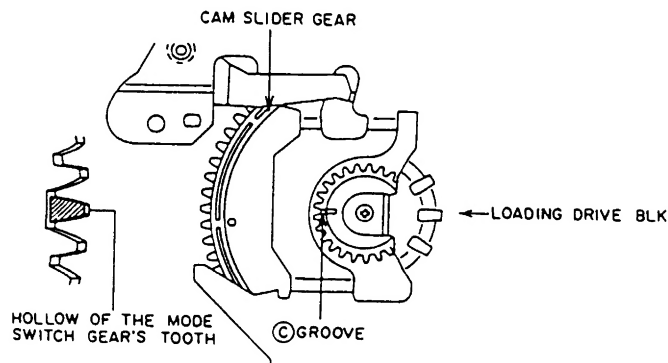

Fig. 3-15
- 2) Attach the MODE SELECT SWITCH to the LOADING DRIVE BLK. At this time, align the hollow of the gear's tooth (reverse side of the Ⓒ mark) with the Ⓒ groove of the CAM SLIDER GEAR as shown in Fig. 3-15.